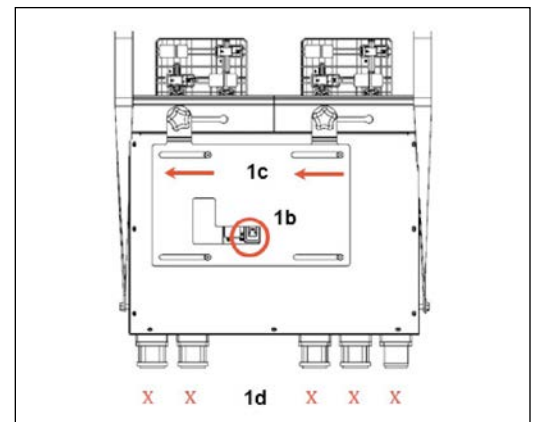

Figure 1. Prerequisites
- The circuit breaker on the LBTOB must be OPEN or OFF (**Figure 1**).
- Both contact engagement knobs should be fully in the left position so that the contacts on both masts are completely recessed (**Figure 1**).
- The load bank should not be attached to the LBTOB (**Figure 1**).